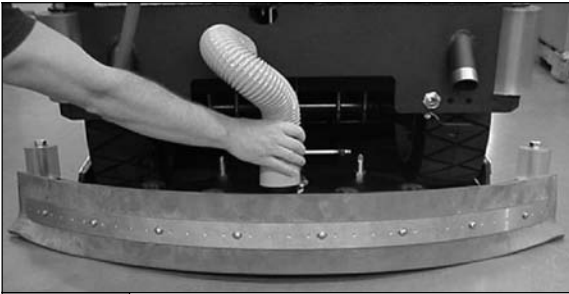

FIGURE 16.
3. THIS SQUEEGEE IS ADJUSTED TOO FAR FORWARD AND WILL NOT PICK UP IN THE CENTER. *NOTE CENTER SPACED OFF THE FLOOR. (SEE FIGURE 16.)